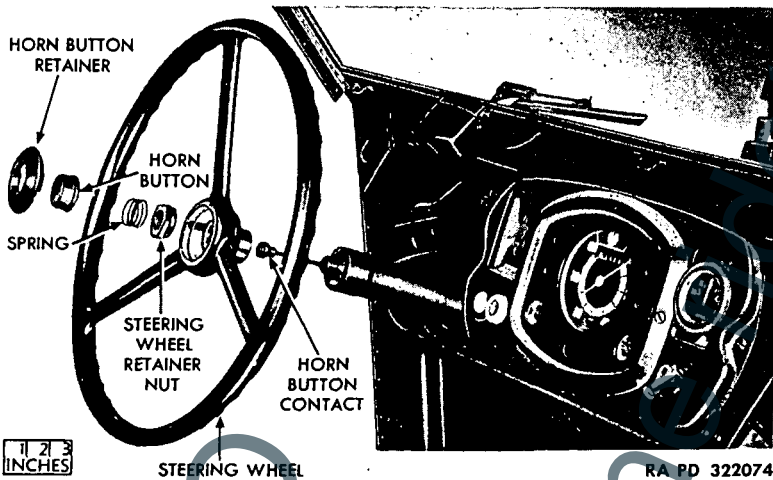

Figure 57—Steering Wheel Removed
b. **Removal.** Pry the horn button retainer from the hub of the wheel. Lift out the horn button and spring, and remove the steering wheel retainer nut. The wheel is splined to the steering column tube, and care should be taken in order to keep from damaging the splines when it is lifted off (fig. 57). Pull the steering wheel from the steering tube.